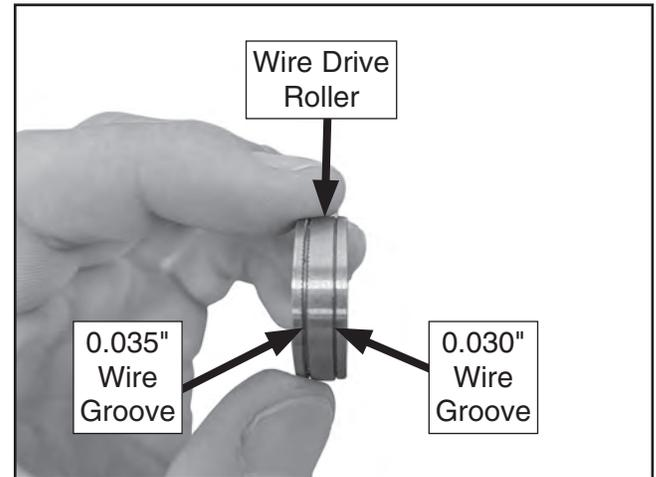

Figure 13. Wire drive roller.
6. Compare gauge of wire to slots in wire drive roller to determine which slot fits best. Large wire groove fits 0.035" flux-cored wire, and small groove fits 0.030" flux-cored wire (see **Figure 13**).